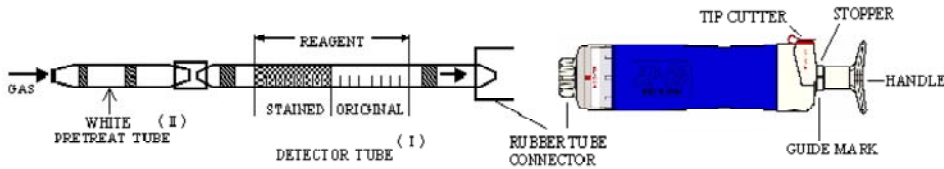

Fig.1
- ① Break both ends of the detector tube (I) and pretreat tube (II) by using the tip cutter, and connect each end of the detector tube (I) and pretreat tube (II) with rubber tube as shown in Fig. 1. (Arrow mark shall point to the pump.)